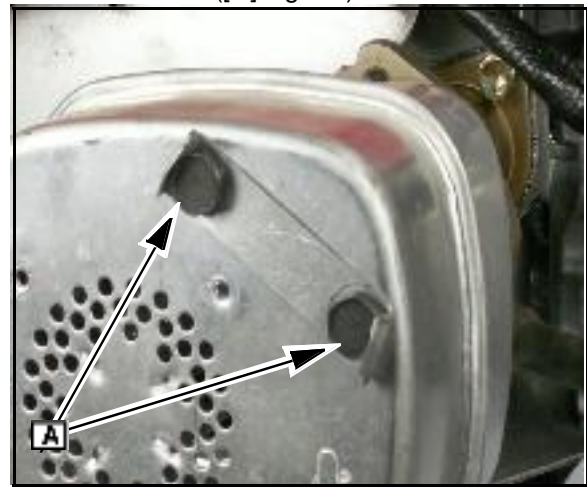

Fig. 32
6. Bend tabs ([A] Fig. 32) to secure the bolts.
3. Install muffler with new gasket (Fig. 32).